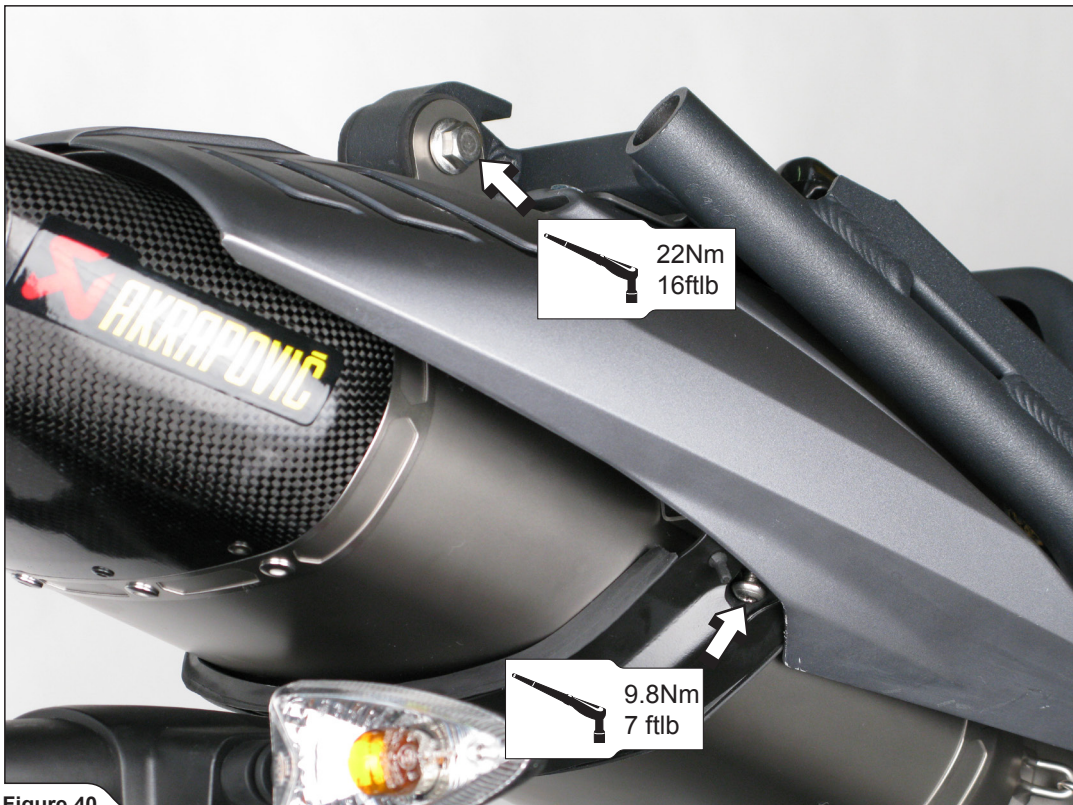

Figure 40
17. Align the muffler in respect to the motorcycle and tighten the muffler bracket onto the sub frame, using stock bolt and nut (Figure 40).
✂ **INSTALLATION TIP:** if the muffler bracket doesn't fit the sub frame holder, untighten the marked clamp bolts on both sides of the motorcycle, aligne muffler bracket and tighten the clamp to a specified torque (Figure 40).